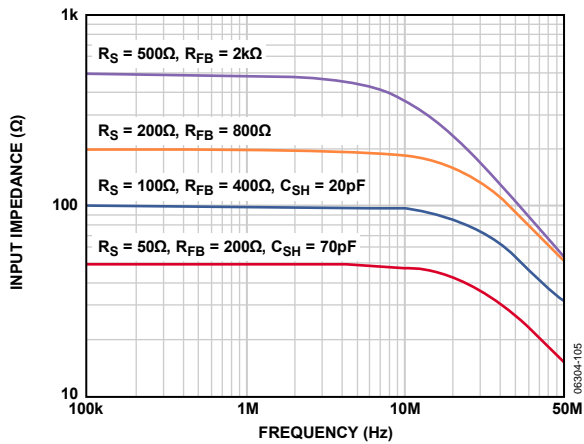

Figure 42. R_{IN} vs. Frequency for Various Values of R_{FB} (Effects of R_{SH} and C_{SH} Are Also Shown)
The bandwidth (BW) of the LNA is about 70 MHz. Ultimately the BW of the LNA limits the accuracy of the synthesized R_{IN}. For R_{IN} = R_S up to about 200 Ω, the best match is between 100 kHz and 10 MHz, where the lower frequency limit is determined by the size of the ac-coupling capacitors, and the upper limit is determined by the LNA BW. Furthermore, the input capacitance and R_S limit the BW at higher frequencies. Figure 42 shows R_{IN} vs. frequency for various values of R_{FB}.
Note that at the lowest value, 50 Ω, in Figure 42, R_{IN} peaks at frequencies greater than 10 MHz. This is due to the BW roll-off of the LNA, as mentioned previously.